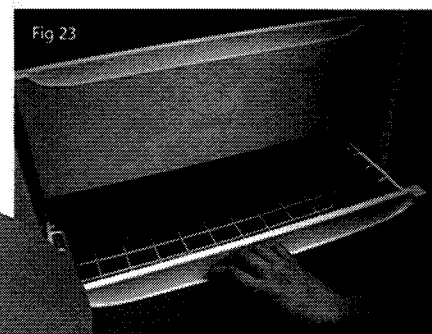

Fig 23
- Storage baskets can be easily removed for cleaning, pull towards you (Fig 23), before basket reaches its stop (Fig 23a) hold securely on both sides, lift front of basket to release and remove.